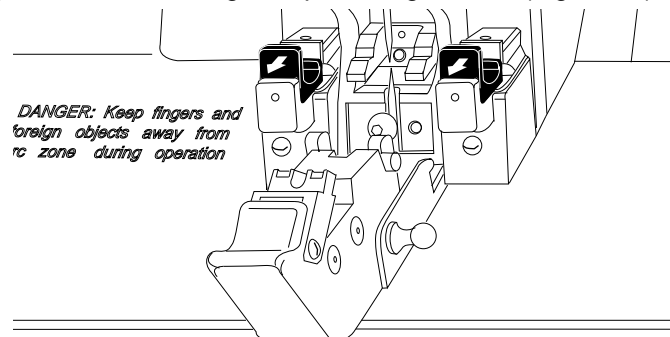

Figure 28
5.2. Open the fiber coating clamps and light tower (Figure 28)